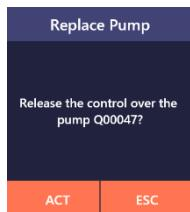

Figure A.9.2
(2) Release the control over the pump (as shown in Figure A.9.2). Click "ACT" to release the binding, or click "ESC" to return to "More" interface.